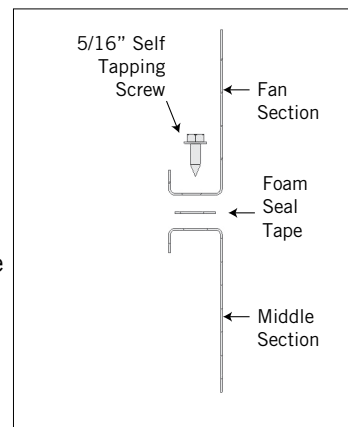

Figure 7. Fan/Middle Section Assembly for Optional Three-Piece Rigging
10. As illustrated in **Figure 7**, insert 5/16" self-tapping screws in each hole from the upper section into the middle section and tighten.